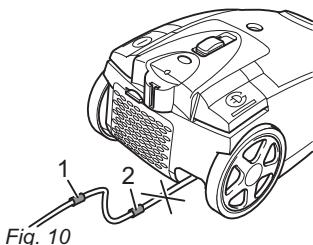
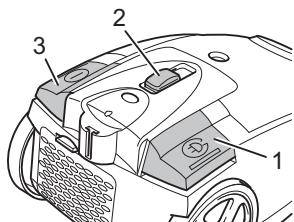

Fig. 10
Fig. 11
2. Remove the cable, by holding the plug, until the yellow mark is reached (Fig. 10/1).
If the red mark (Fig. 10/2) is visible, use the cable retract button (Fig. 11/3) to draw the cable in again up to the yellow mark. Otherwise the cable can break off. There is a risk of electric shock.
3. Switch on the cylinder vacuum cleaner using the on/off switch (Fig. 11/3).
4. Turn on the suction using the suction controller (Fig. 11/2).